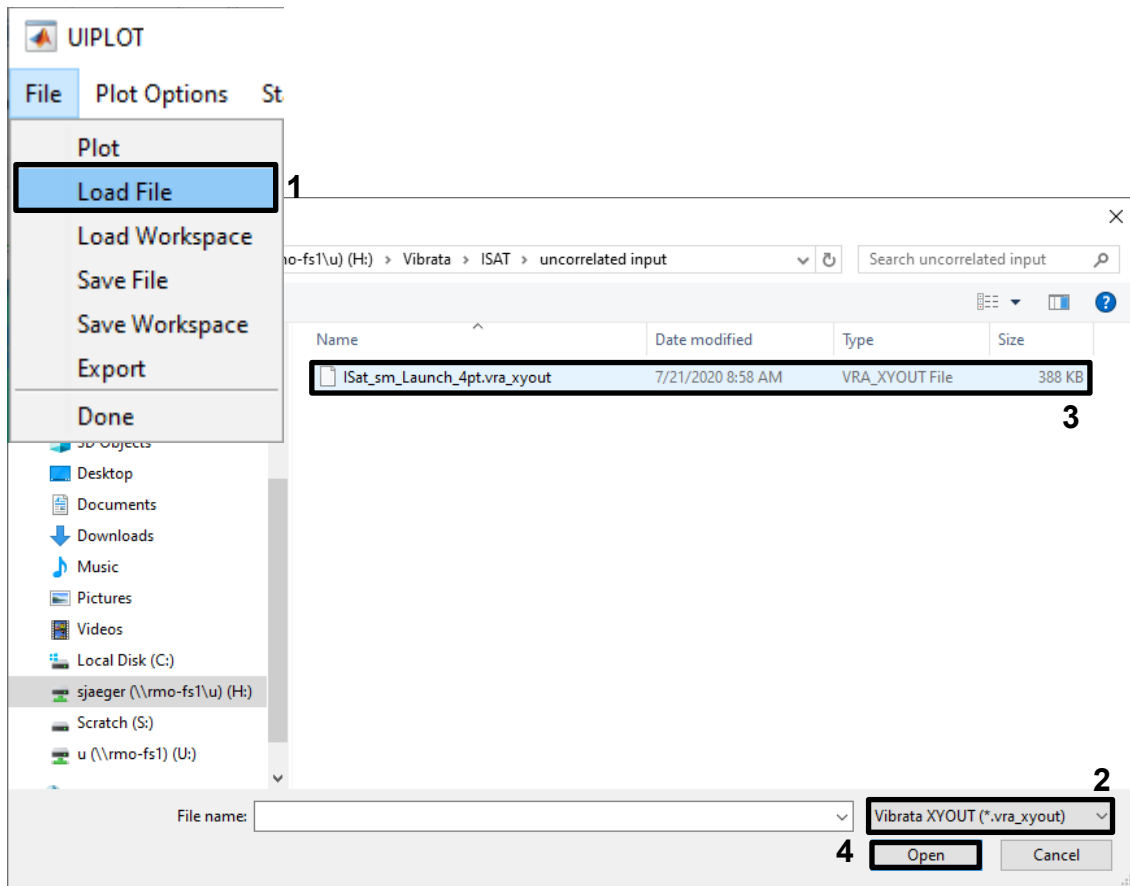
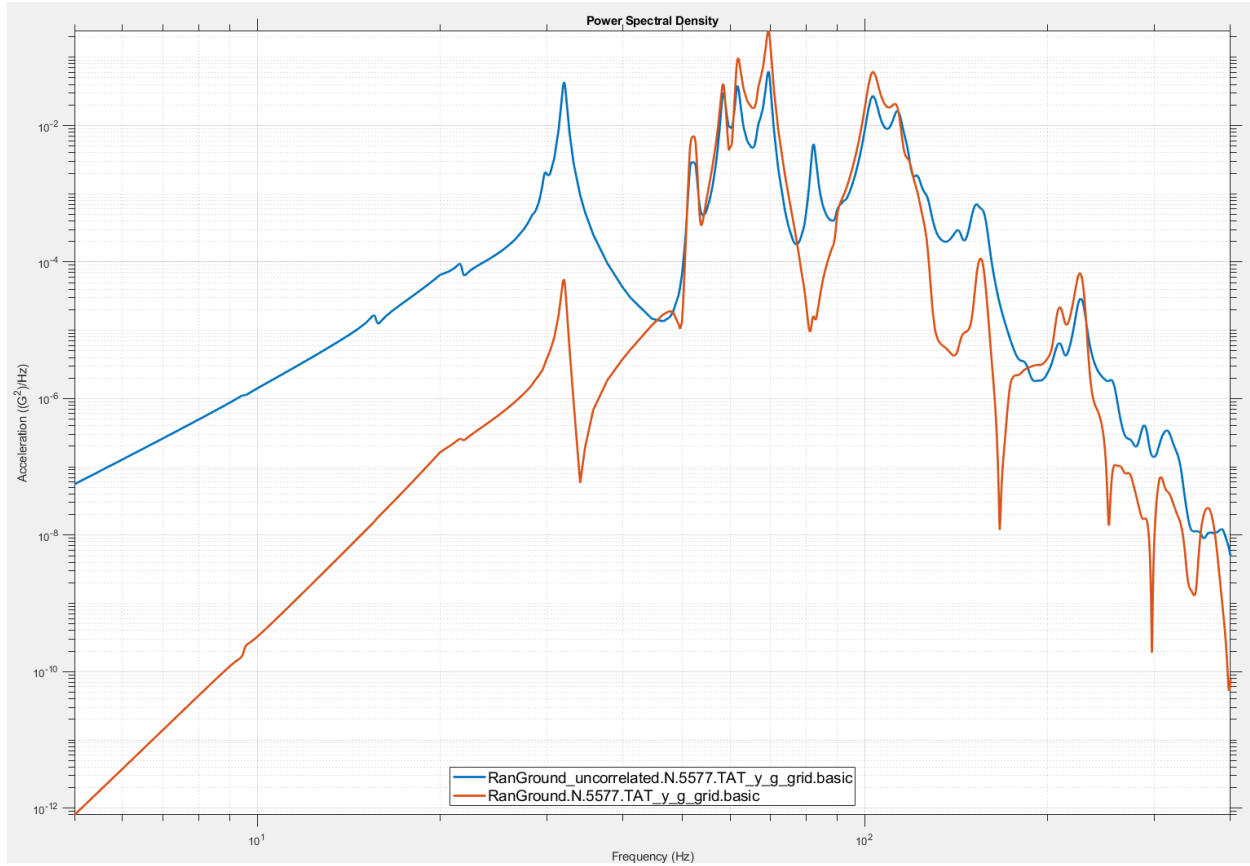

Figure 4-58. Add the rigid-base results to those available for plotting.
Figure 4-59. The Y-acceleration responses for the two events are very different.
- Compare the Y-acceleration response PSD from this case to the one from the rigid-base event. On the *Output* tab, click the **PLOT XY...** button to bring up the *UIPLOT* dialog. It will show the functions for the current event, which is the four-point model with uncorrelated inputs. Use the *File / Load File* menu to make the results of the rigid-base event available (Figure 4-58). Plot the *TATy* function from both events (Figure 4-59). Again, they are clearly quite different.